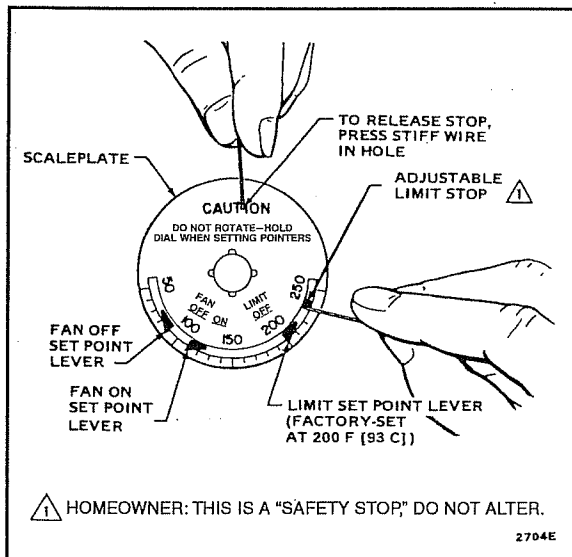

Fig. 8—Changing the high limit stop.
When adjusting the fan and limit set point levers (Fig. 8), hold the scaleplate dial to keep it from turning and straining the sensing element.
1. Push a stiff wire through hole in scaleplate to depress the stop disc not more than 1/16 in. [1.6 mm] to release stop lock (Fig. 8). Stop disc is on back of scaleplate.
2. While depressing the stop disc, insert another stiff wire next to limit stop (Fig. 8) and use this wire to move stop to desired setting. *If the L4064 is replacement control, high limit stop setting should be the same as that of the control being replaced.* (Move stop clockwise ↻ to lower the setting, counterclockwise ↺ to raise it.) Then remove both wires.